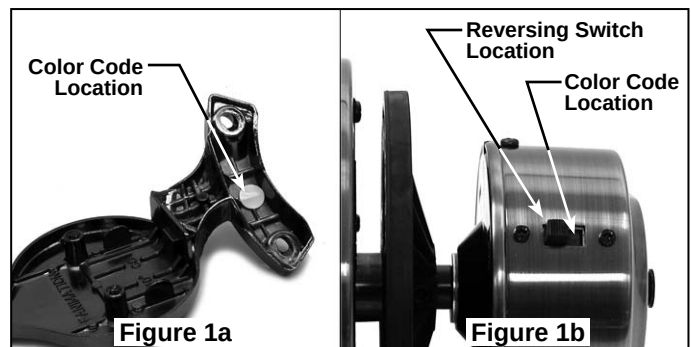

Figure 2:
6. Tighten both screws to secure the blade. (Figure 2)